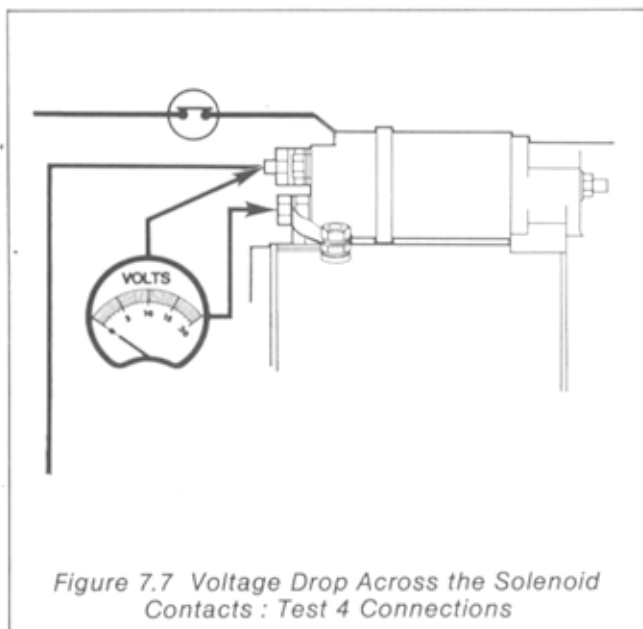

Figure 7.7 Voltage Drop Across the Solenoid Contacts : Test 4 Connections
**7.17** Connect the voltmeter across the two main solenoid contacts as shown in Figure 7.7. With the starter switch open the voltmeter should read battery voltage. When the starter switch is operated the voltmeter should read zero volts or a fractional value.